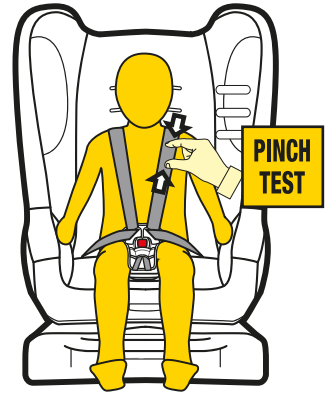

Figure 6
**Step 6:** Check the harness tightness by the **PINCH TEST**, this is achieved by pinching the harness webbing at the shoulders (refer Figure 6)